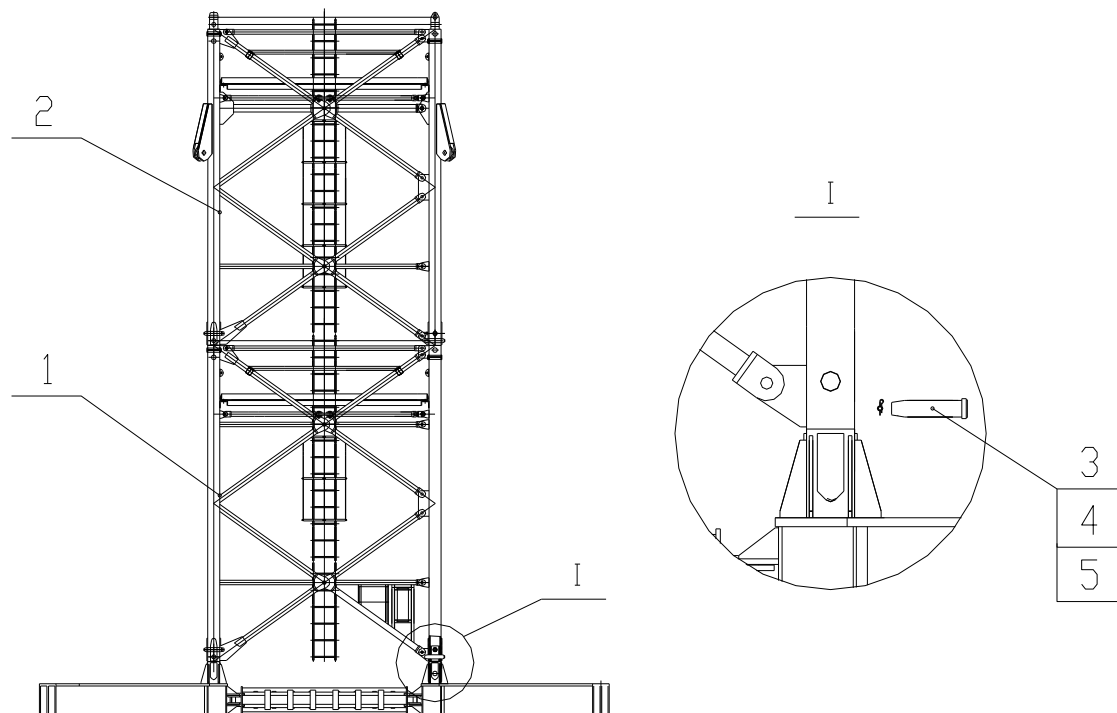

Fig. 4-59 Installing the base tower sections
- 2) Assemble the base tower section I and II according to **Section 3.8.2.1**. Lift and the base tower section I to the assembled piece beams, connect them by **8** pins of **Φ75**. Knock the pins until their shoulders fit the surfaces of main chords, then insert the split pins and spring pins. Then install the base tower section II onto the base tower section I. Refer to Fig. 4-59 and Table 4-32.